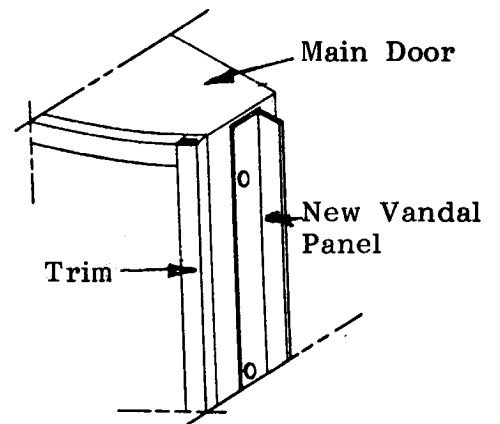

Figure 2
9. Install the new vandal panel to the main door. See figure 2. Secure with the bolts and nuts removed from the original vandal panel. Only one row of bolts can be used.